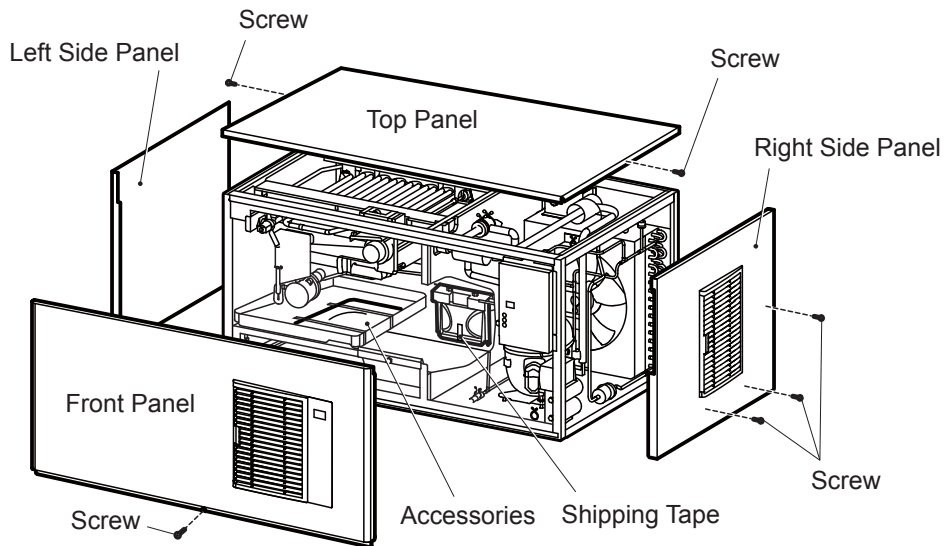

Fig. 1
B. How to Remove Panels - See Fig. 1
- 6) Remove the package containing the accessories from the icemaker. See Fig. 1.
- 7) Remove the shipping tape holding the bin control switch. See Fig. 1.